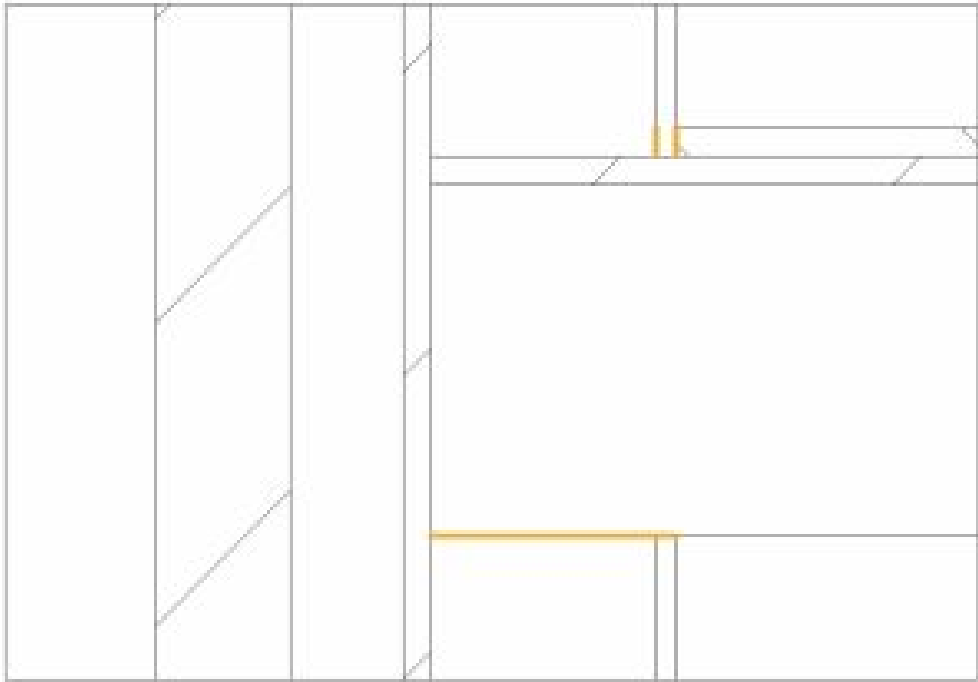

Figure 10.4 Thin lines drawn are highlighted in yellow
2. Change the Line Style to Thin Lines and draw the lines as shown in Figure 10.4